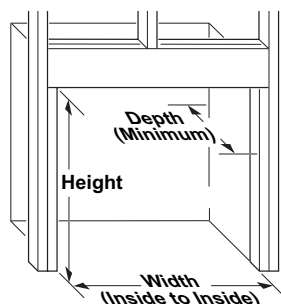
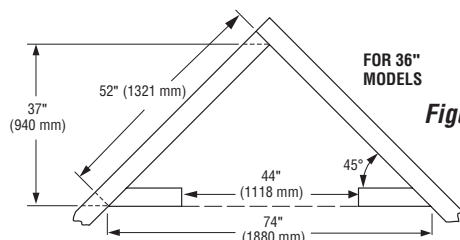

Figure 4a
Figure 4b
1. Frame in rough opening. The fireplace framing must be constructed of steel stud material. Steel studs are provided and are permanently fixed around the perimeter of the unit. Use dimensions in Table 1 and rough opening layout in Figure 4a. Adjust framing so that fireplace is flush with finished wall surface. If installing in a corner, use dimensions in Figures 4b and 4c for rough opening.